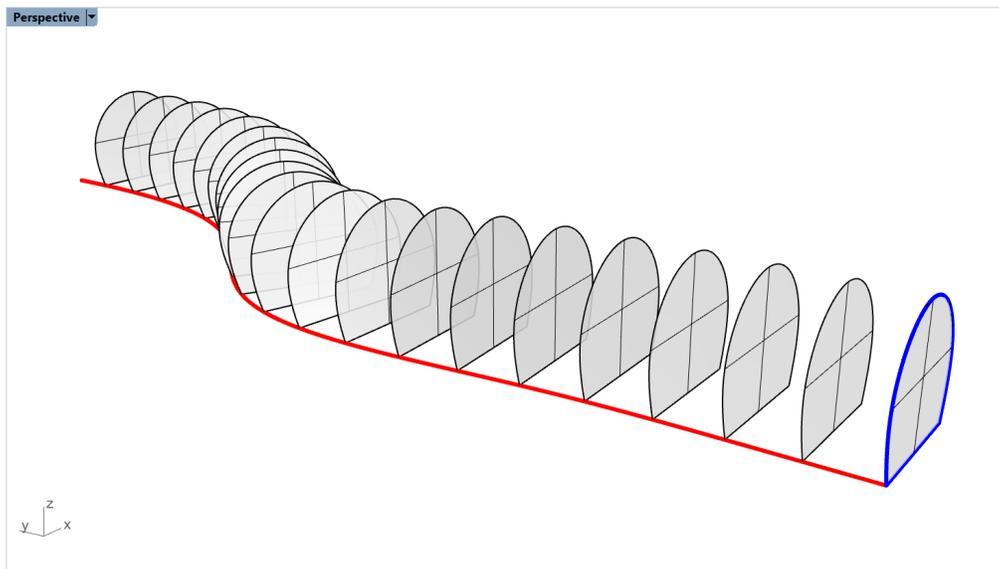

Figure 55: Creation of excavation stages by duplicating initial cross-section surface. Tunnel surface is not shown.
11. Select the initial cross-section surface and use command `_ArrayCrvt` to duplicate it along the direction path (red curve) with a spacing of roughly 5 m; this will create excavation stages that can be gradually removed during numerical simulations (Figure 55). In the command options pop-up window, set *Distance between items* = 5, *Orientation* = *Freeform*.